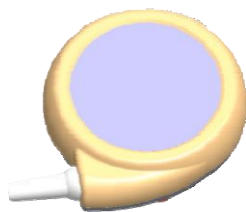

Figure14-2 FHR Transducer
- (1) Let the patient lie on her back with the belt placed under her back, and then use the FHR transducer to find the position of the fetal heart.
- (2) Apply conductive gel to the contact surface of the transducer to ensure the largest FHR monitoring area. Before applying the transducer to the pregnant woman, please apply conductive gel to the middle 2/3 part of the contact surface. The conductive gel will be pressed to cover the whole contact surface (shaded part in Figure 14-2) after the transducer is fixed to the pregnant woman's abdomen.